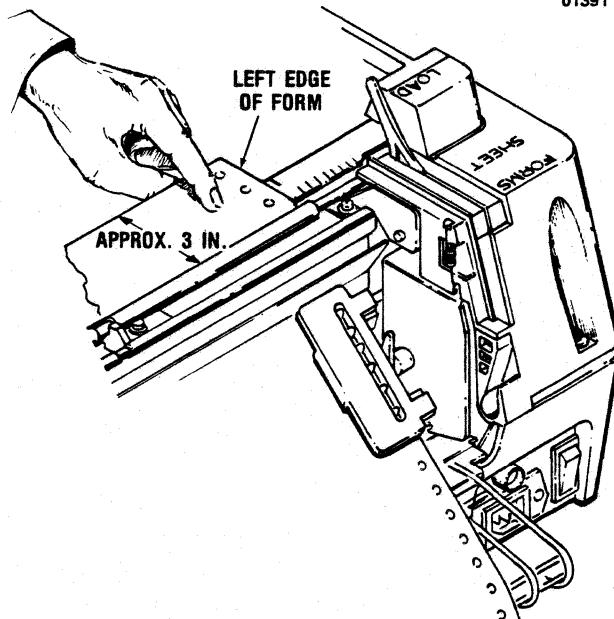

Figure 3-2 Fanfold Alignment
13. Gently pull the form across the column scale/tear bar (see Figure 3-2).